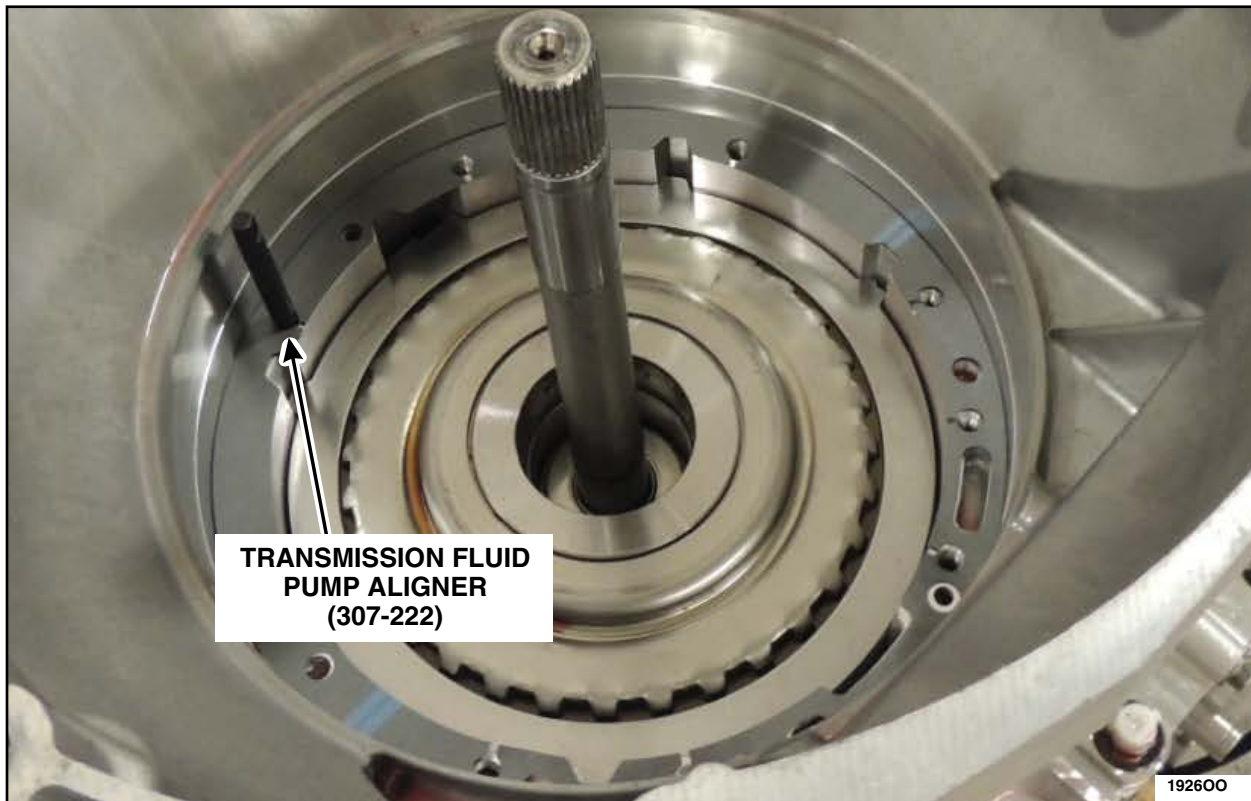

FIGURE 40
37. Install the Transmission Fluid Pump Aligner (307-222) into the case in order to achieve front pump-to-case alignment. See Figure 40.